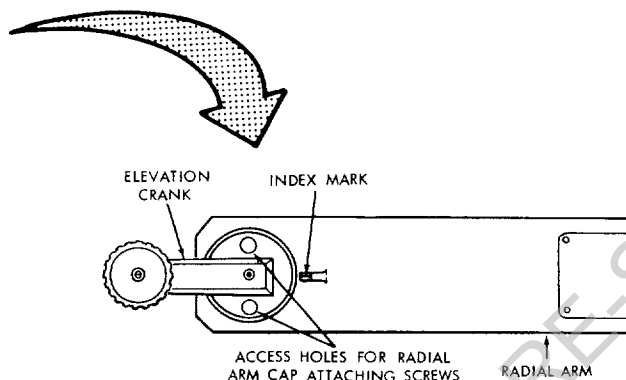

Figure 26
e. After the crosscut travel has been accurately squared, check the 0° position on the indicator scale of the radial arm cap to determine if the 0° position on the scale is aligned with index mark on radial arm. (See figure 26) If not aligned, proceed as follows:
- (1) Rotate the elevation crank to a position which will locate the two access holes over screw heads of radial arm cap attaching screws. (See figure 26.)
- (2) Loosen the two screws with a screwdriver inserted through the access holes in elevation crank.
- (3) Reposition the radial arm cap by hand until the 0° mark is aligned with the index mark and tighten the two screws.